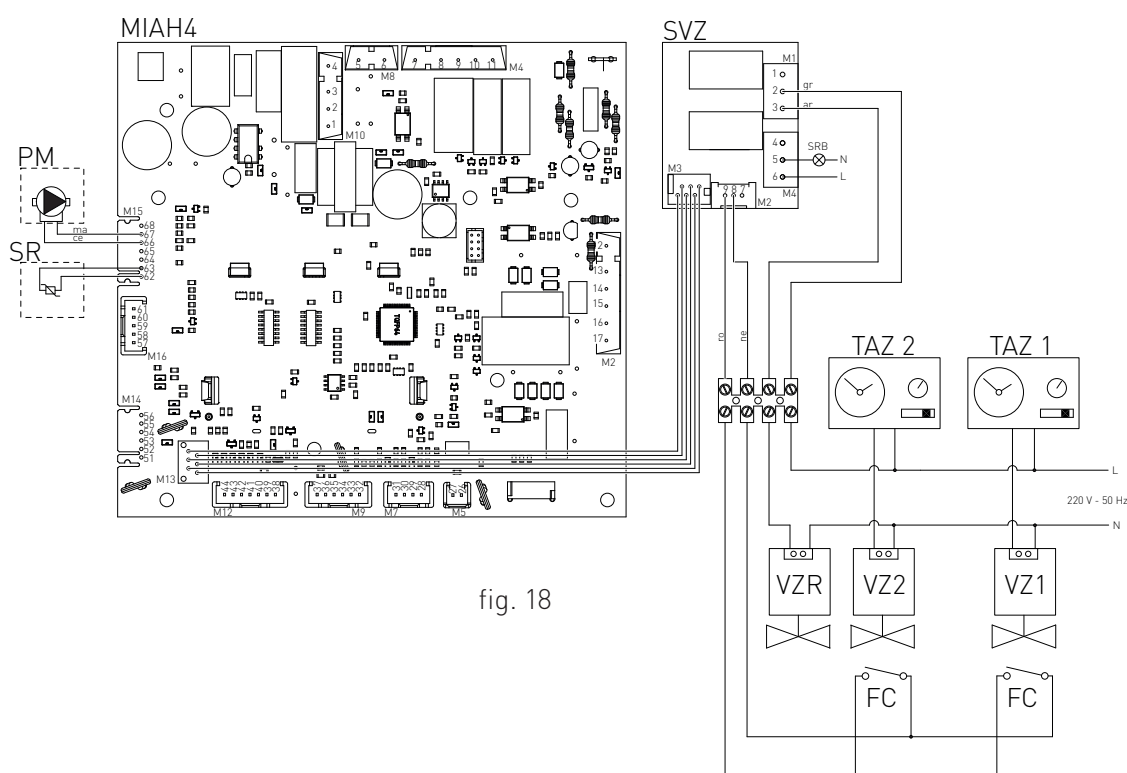

fig. 18
- › After removing the crankcase, connect the items below to the electronic board (see fig. 18):